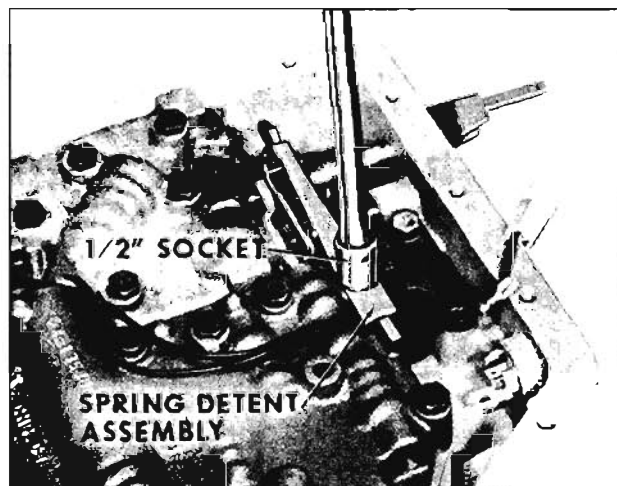

Fig. 6-264 Removing Spring Detent Assembly
5. Remove spring detent assembly bolt with a 1/2" socket. Remove spring detent assembly from valve body. (Fig. 6-264)